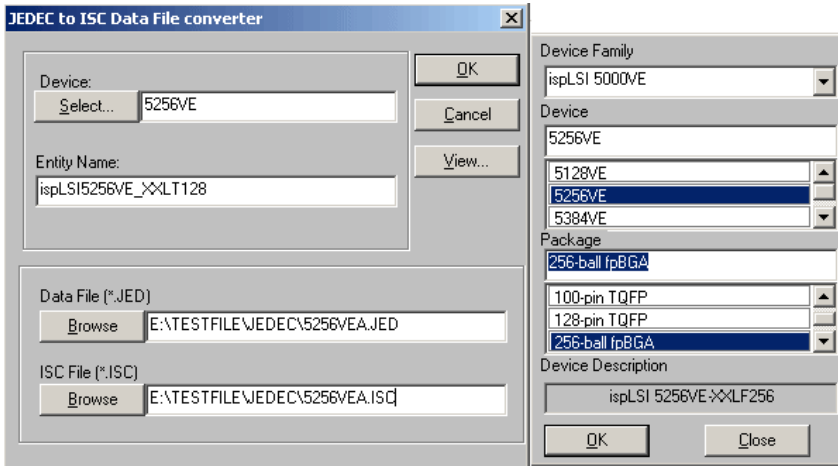

Figure 2-12. JEDEC to ISC Data File Converter Dialog
1. Choose **Project > Generate ISC File** to open the JEDEC to ISC Data File Converter dialog (Figure 2-12).